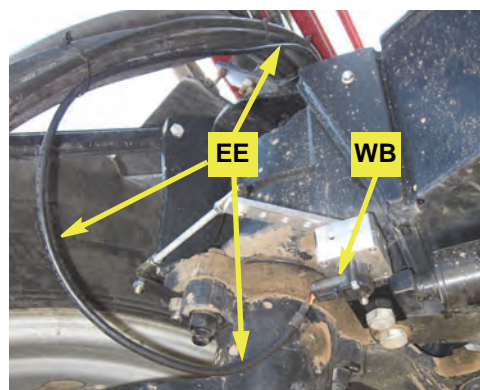

Figure 2d: WAS cable to wire connector
- Using cable ties **ER** route **EE** to the WAS assembly on the right side adjusting cylinder. Connect **EE** to **WB**'s wire connector (Figure 2d).